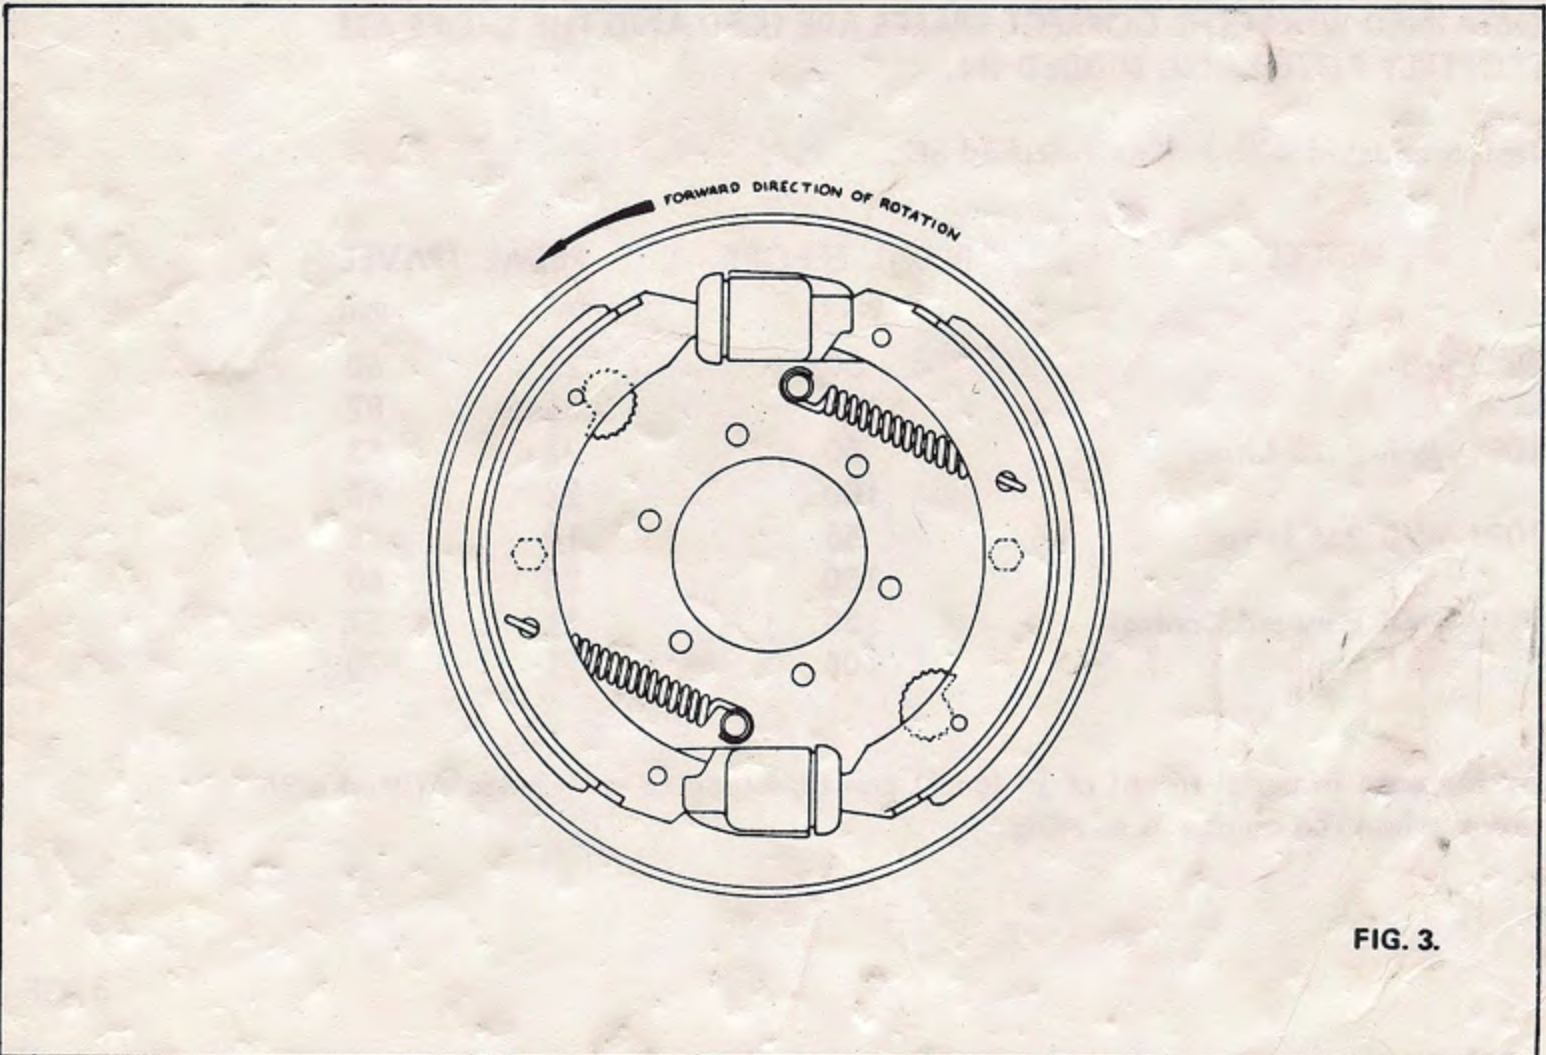

FIG. 3.
- 6) The illustration (Fig. 3 overleaf) shows the correct method of fitting the shoes to the front brakes.